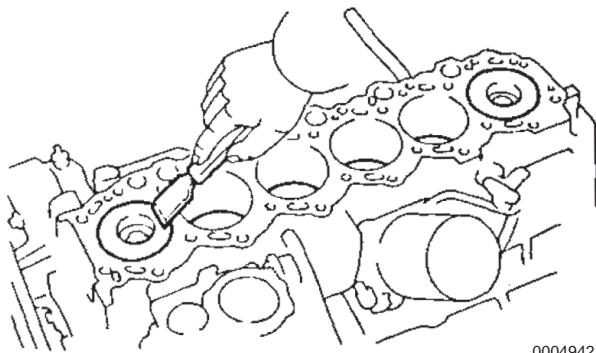

Figure 5-17
1. Turn the crankshaft to bring each piston to top dead center. Remove all carbon deposits from the piston tops using a scraper (Figure 5-17).